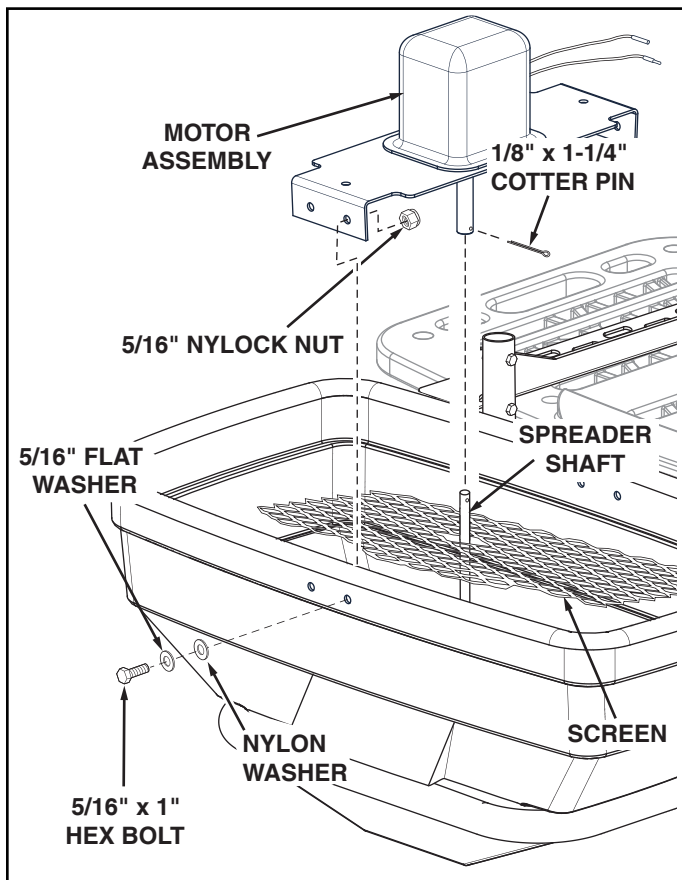

FIGURE 9
14. Place the screen down into the hopper. **DO NOT** place it under the clips in bottom of hopper at this time. See figure 9.
15. Place the motor assembly down into the hopper, inserting the end of the spreader shaft into the impeller coupler. Secure it with a 1/8" x 1-1/4" cotter pin, spreading the ends of the pin around the coupler. See figure 9.
16. Fasten the motor mount bracket to the hopper using four 5/16" x 1" hex bolts, 5/16" flat washers, nylon washers and 5/16" nylock nuts. See figure 9.